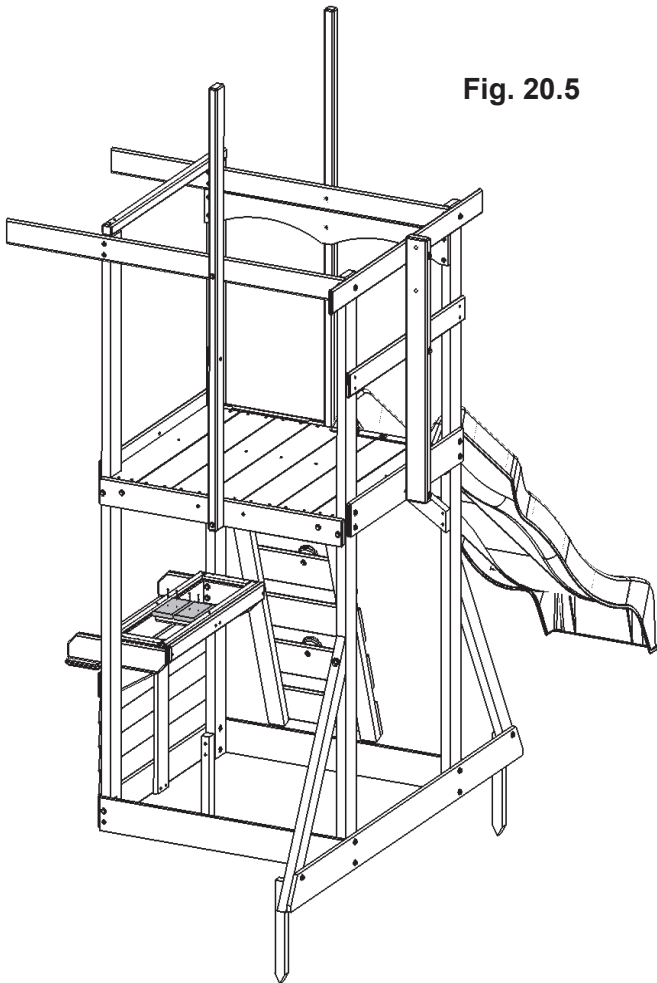

Fig. 20.5
G: Centre 2 (2544) Counter Middles over (2537) Counter Joist and attach with 2 (TS) #6 x 30 mm Trim Screws per board. (fig. 20.5 and 20.6)